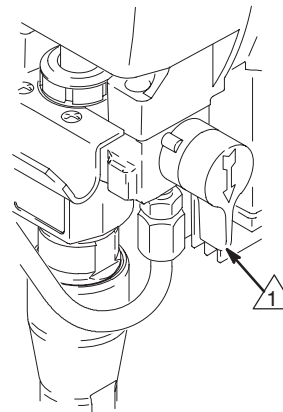

Fig. 11
5. Open pressure drain valve. See Fig.11.